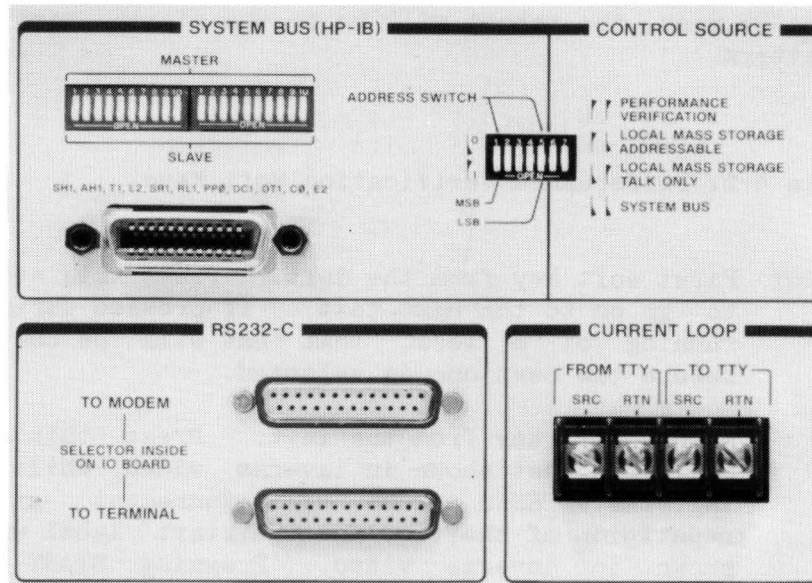

Figure 4-1. Rear Panel Switch Locations.
- a. Place the control source switches in the Performance verification position shown on the control source label on the rear panel. See Figure 4-1 for the switch locations.